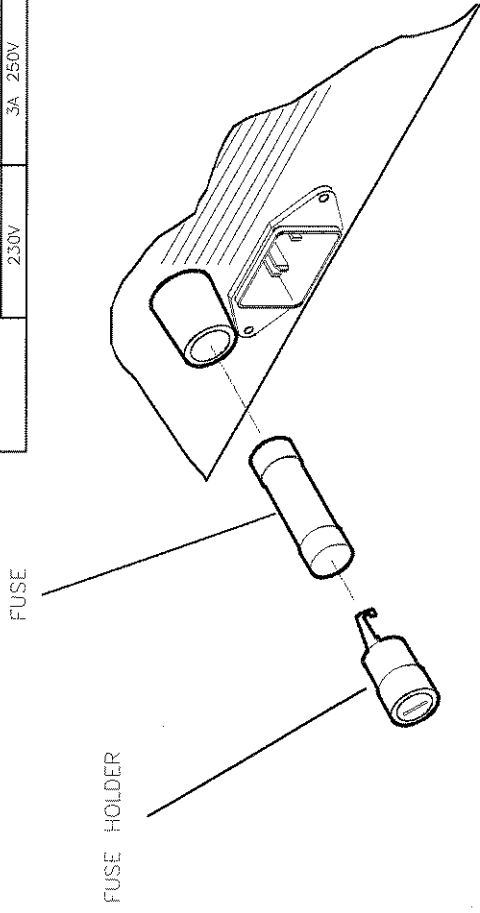

Figure 10-2. Replacing the Line Fuse
3. Refer to Figure 10-2. Using a small flat-blade screwdriver, rotate the fuse cap counterclockwise, and remove the fuse holder.
**WARNING** For continued protection against fire hazard replace line fuse only with same type and rating (refer to Figure 10-2). The use of other fuses or material is prohibited.